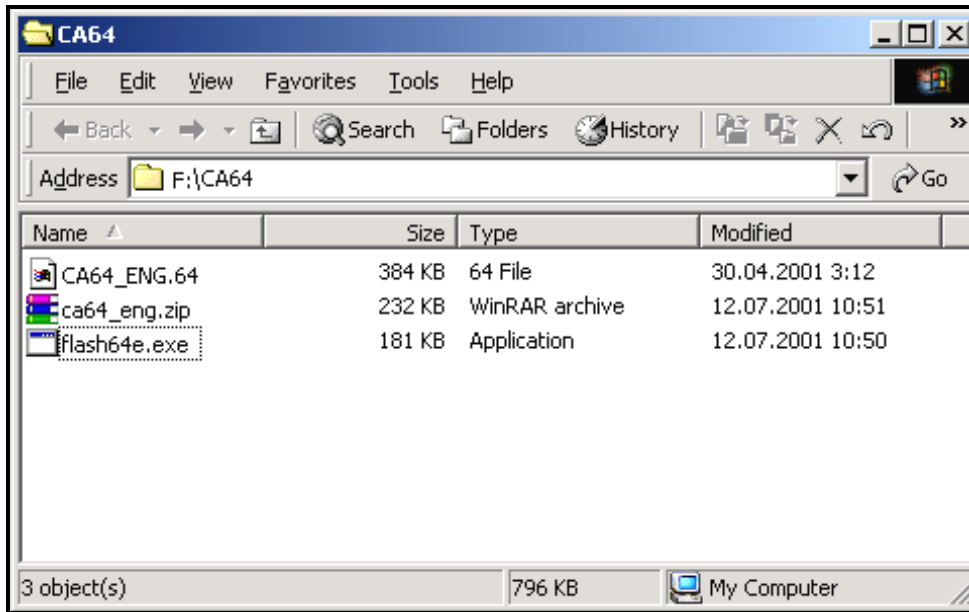

Fig. 3
- The next step is running the **flash64.exe** program in the computer, which can be done either from the DOS or from the WINDOWS level. It is convenient to place the **flash64.exe** (flash64e.exe) program and the **CA64.64** (CA64\_ENG.64) file in the same directory (see Fig. 3), as this will facilitate quick selection of the right file. However, the file can be selected from any directory on the computer disk.